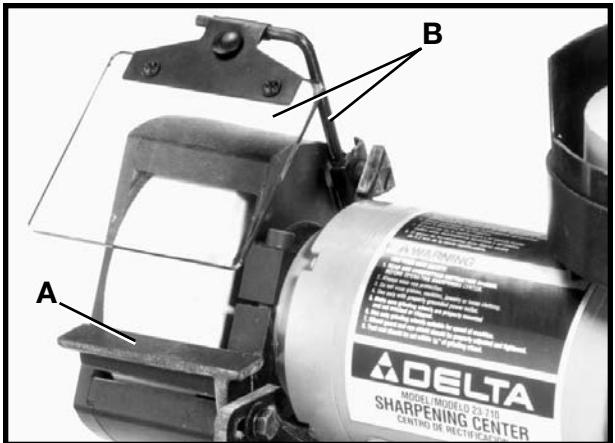

Fig. 46
- Remove the dry wheel tool rest (A) Fig. 46, and eyeshield (B).